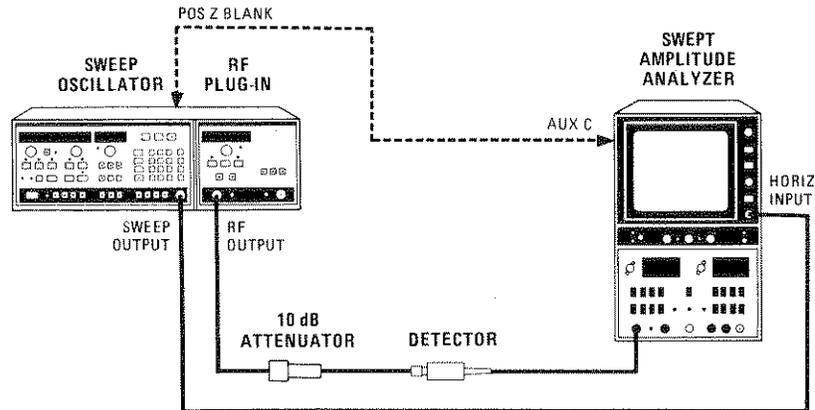
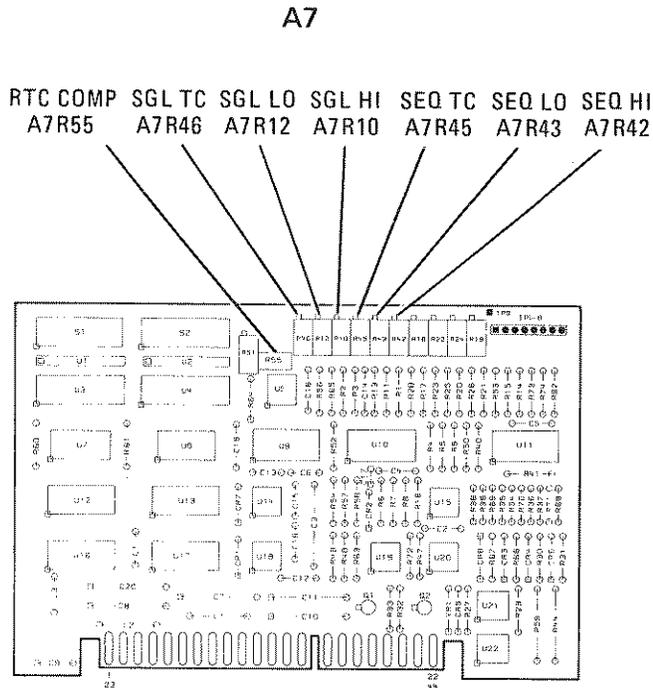

Figure 5-23. YTM Delay Compensation Adjustment Test Setup
Figure 5-24. YTM Delay Compensation Adjustment Locations
1. Connect the equipment as shown in Figure 5-23. Do not connect the BNC cable between the 8350A rear-panel POS Z BLANK and the 182T AUX C connector yet. Preset A7R45 (SEQ TC) fully counterclockwise. Refer to Figure 5-24 for adjustment locations. Allow the equipment to warm up for one hour.